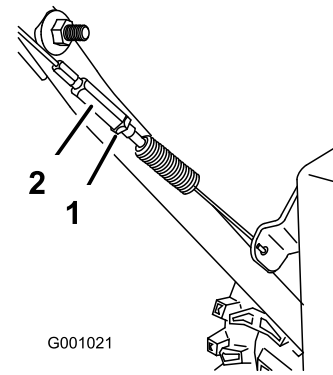

Figure 26
3. Tighten the jam nut (Figure 26).